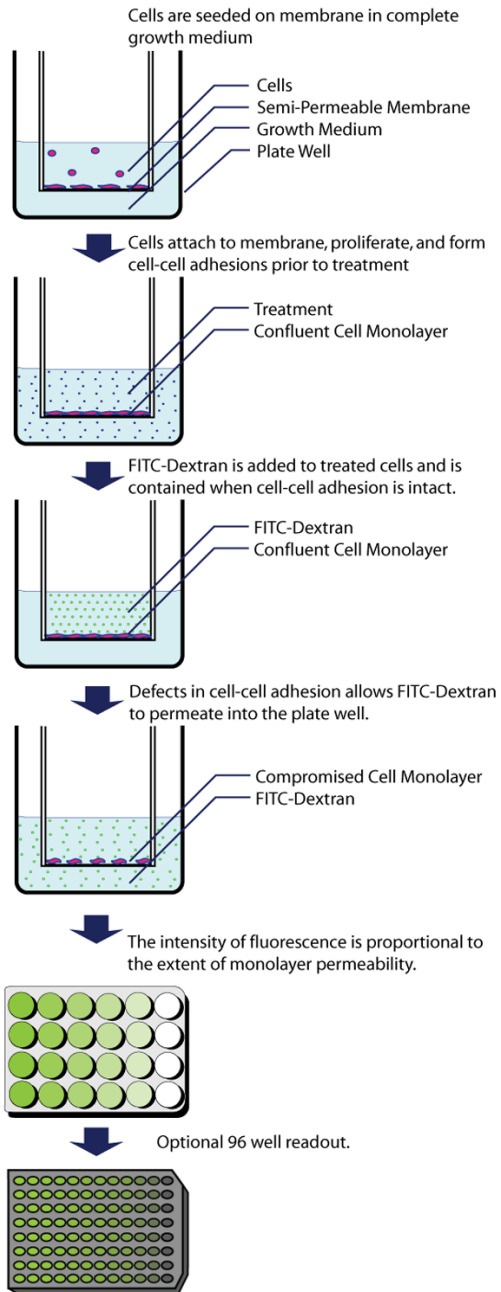

Figure 1. Illustration of protocol for the CultreCoat Vascular Permeability Kit.
5. Graph the vascular permeability with standard deviations (Figure 1).